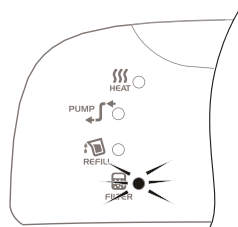

Fig.8
1. Filter invalid checking system is built in this appliance. It can detect the working time for the filter. Once the filter is invalid, the filter replacement indicator light on control panel will continuously blink to indicate that the filter needs to be replaced. (Fig.8)